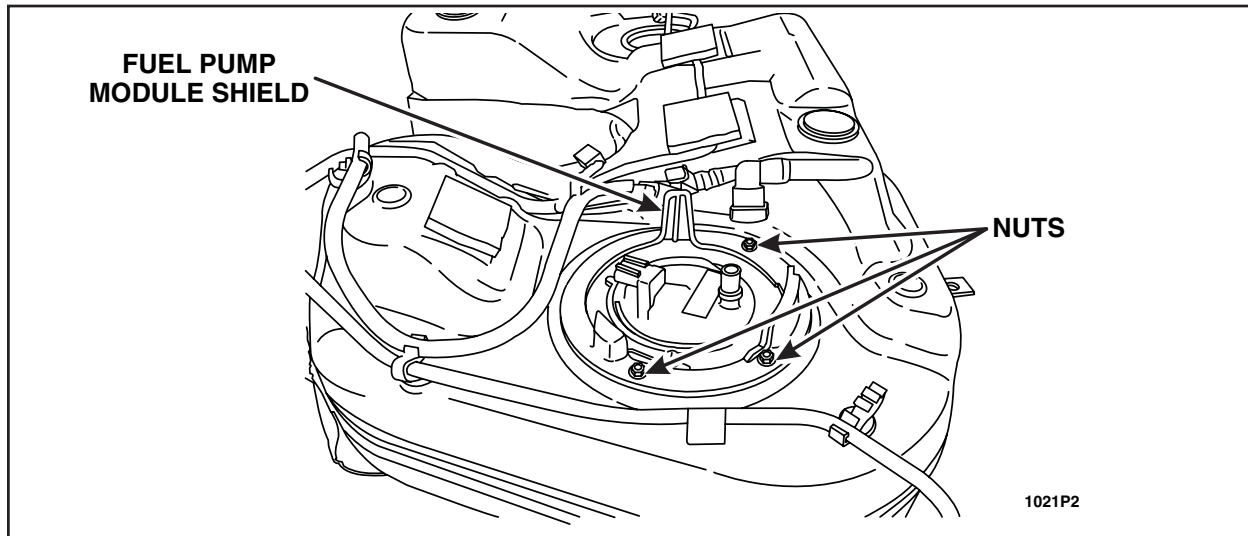

FIGURE 16
43. Install the *new* fuel pump module shield and the 3 nuts. See Figure 16.